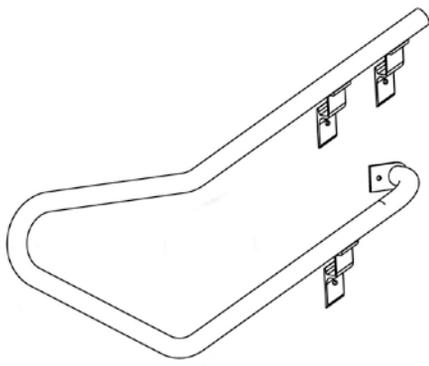
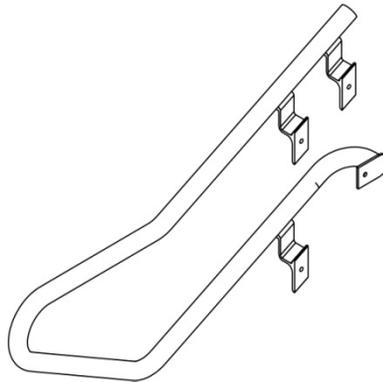

FIG. 11a
FIG. 11b
- ① Left (FIG. 11a) and right bottom loops (FIG. 11b)